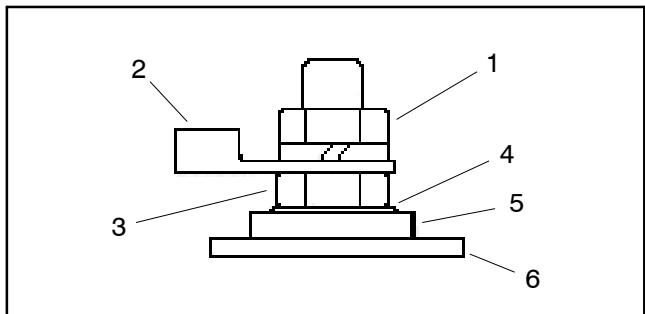

Figure 55
A. Make sure that fasteners and cable connectors are properly positioned on motor terminals (Fig. 55).